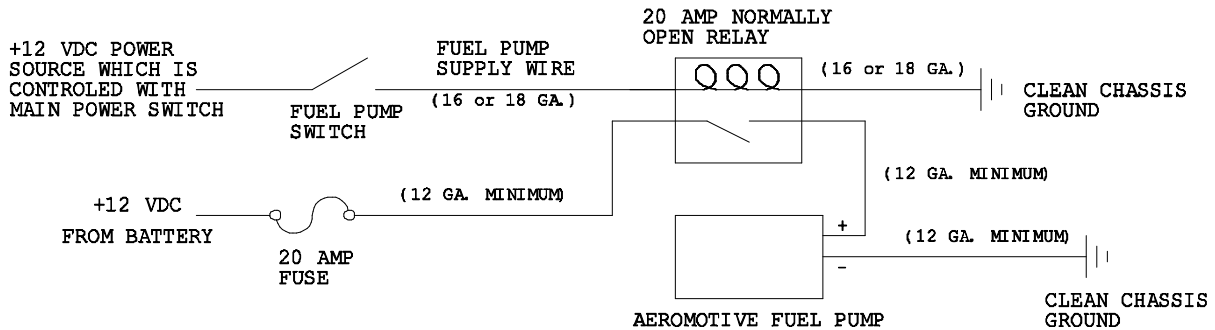

Figure 2-1
18. Prep the new tank by making all the necessary connection (feed, return, vent and electrical) before placing tank in vehicle. In most cases, once the tank is placed in the vehicle these connections will not be accessible. For electrical wiring refer to **Figure 2-1**.